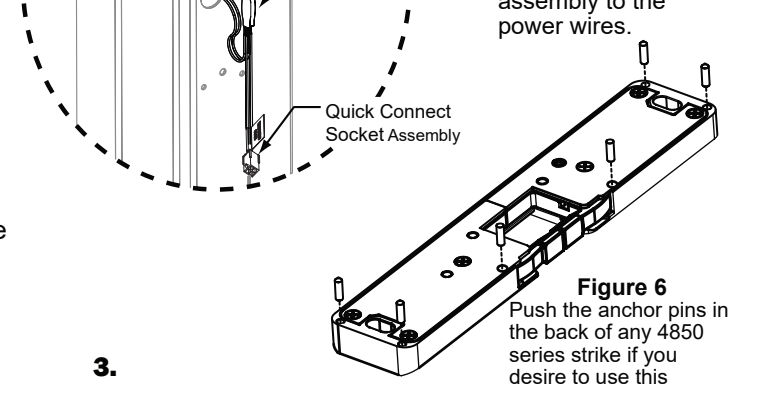

Figure 5
11. Using the provided sealed crimp connectors, terminate the quick connect socket assembly to the power wires. See Figure 5 (NOTE: The 4850 is not polarized)